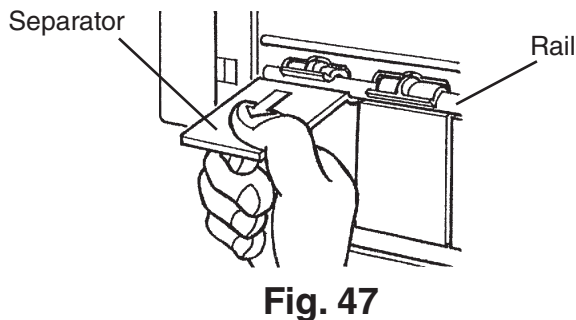

Fig. 47
- 14) Slide in the water tank along the rails at the bottom of the left and right brackets until it locks into place. See Fig. 47.
- 16) Hook each separator onto the rail, then pull it hard towards you until it locks into place. See Fig. 47.